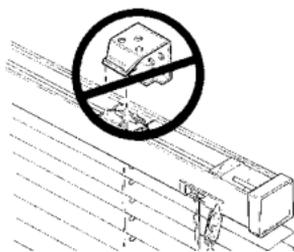

Figure B4
1. If your hardware packet includes one center support bracket, position it as close to the center of the window casing as possible, making sure that it will not interfere with any moving parts. If more than one center support bracket has been provided, position them equidistant from the end brackets and each other, again avoiding all moving parts. (See Figure B4)
1. If your hardware packet includes one center support bracket, position it as close to the center of the mounting surface as possible, making sure it will not interfere with any moving parts. If more than one center support bracket has been provided, position them equidistant from the end brackets and each other, again avoiding all moving parts. (See Figure B4, Page 3)